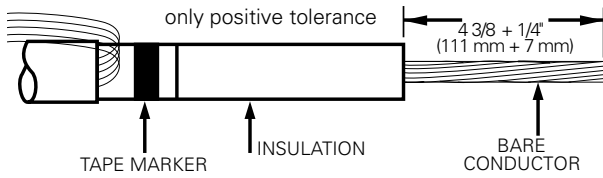

Figure 5. Line illustration of bare conductor length
- Remove insulation exposing bare conductor to length of 4 3/8" (111 mm). (Refer to Figure 5.)